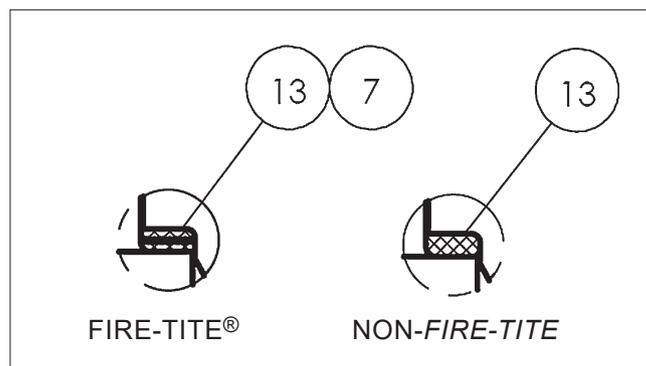

Figure 7. Thrust Bearing Orientations
7. From inside the body (1), insert the one thrust bearing (13), the
secondary stem seal (7), and the second thrust bearings (13) into the stem bore (see **Figure7**).
- Slide one thrust bearing (13), the secondary stem seal (7) and the second thrust bearing (13) over the stem (4) (see **Figure 7** for proper orientation).